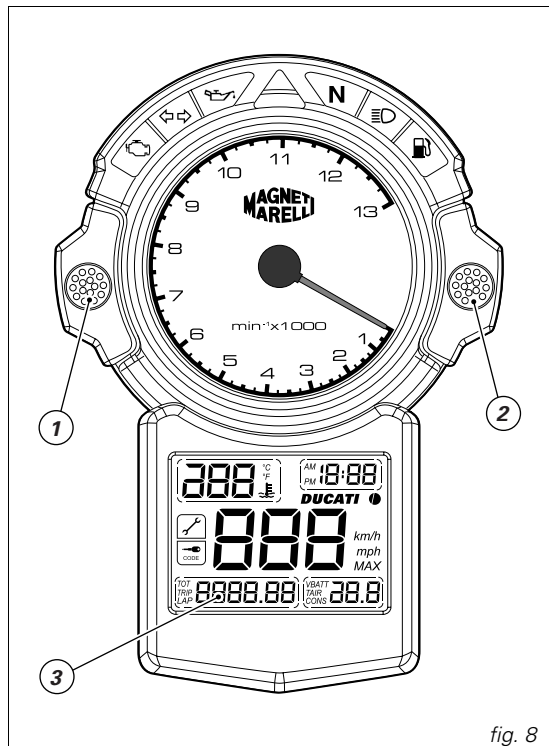

fig. 8
Hold down button (1, fig. 8) for at least 2 seconds.
To select AM/PM, press button (2, fig. 8). Press the button (1) to confirm selection and enter hours setting mode.
Select TRIP indication in the display (3, fig. 8). Hold down the button (2) for at least 2 seconds to reset displayed trip meter indication.